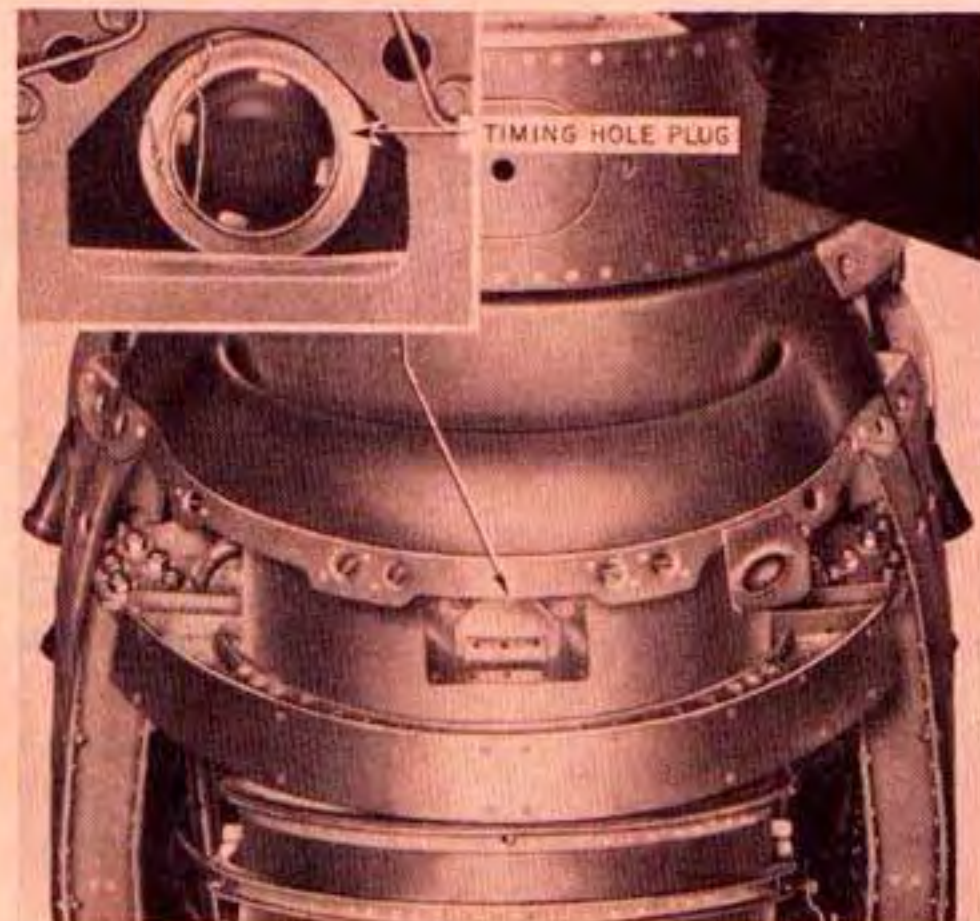

Figure 171—Timing Inspection Port
1. Remove the two dzus-fastened timing inspection doors from the front section of the carburetor air scoop. (See figure 171.)